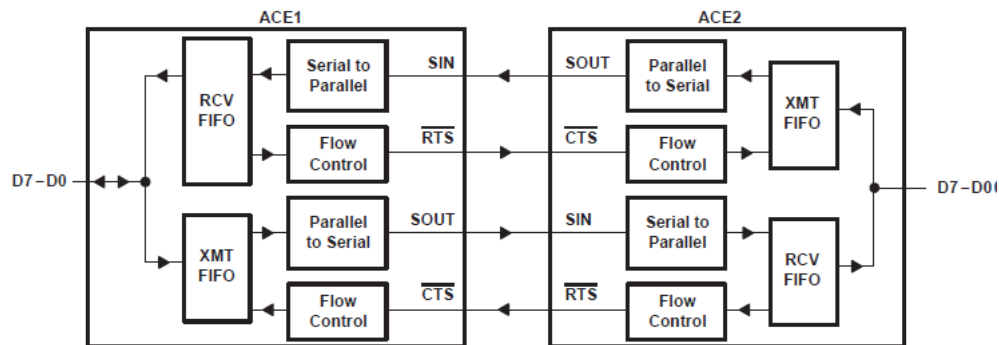

Figure 7-1. Autoflow Control (Auto- $\overline{\text{RTS}}$ and Auto- $\overline{\text{CTS}}$) Example
7.1 Autoflow Control (see Figure 7-1)
7.2 Auto- $\overline{\text{RTS}}$ (see Figure 7-1)
7.3 Auto- $\overline{\text{CTS}}$ (see Figure 7-1)